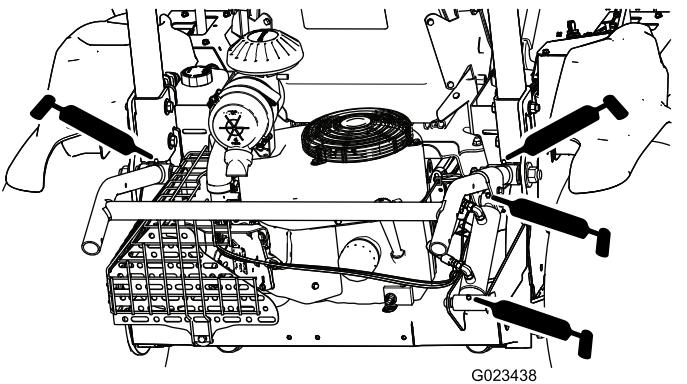

Figure 36
- Attachment lift (4)—Figure 36